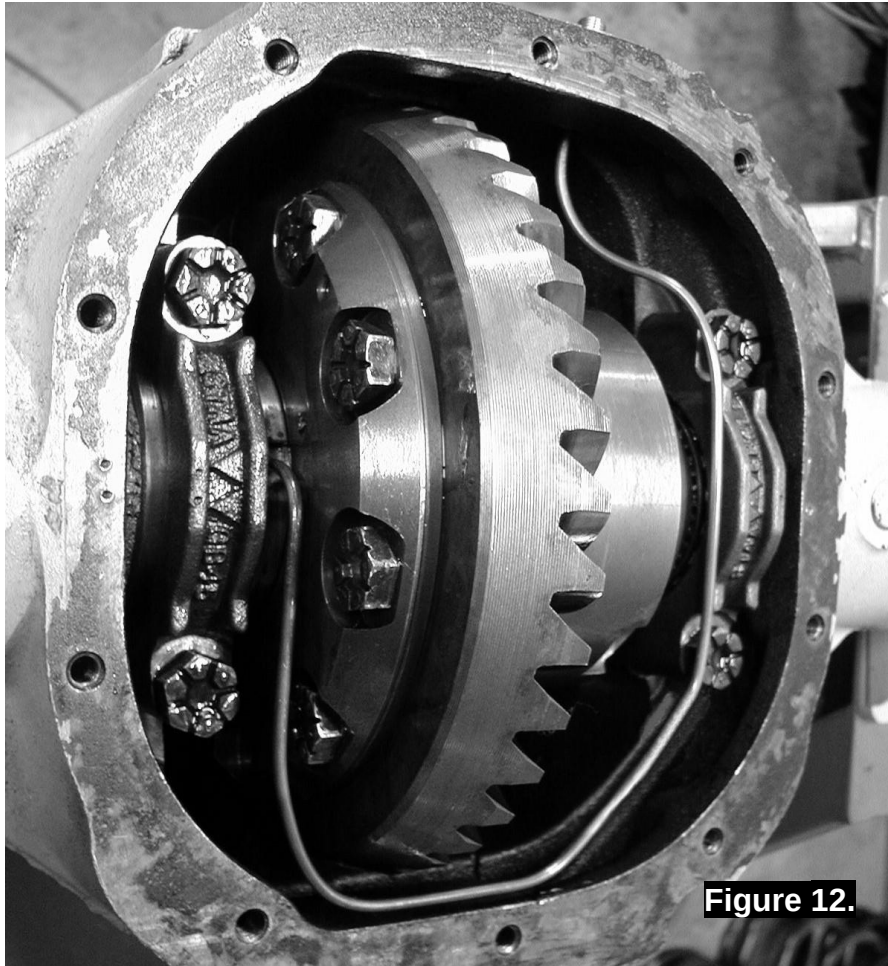
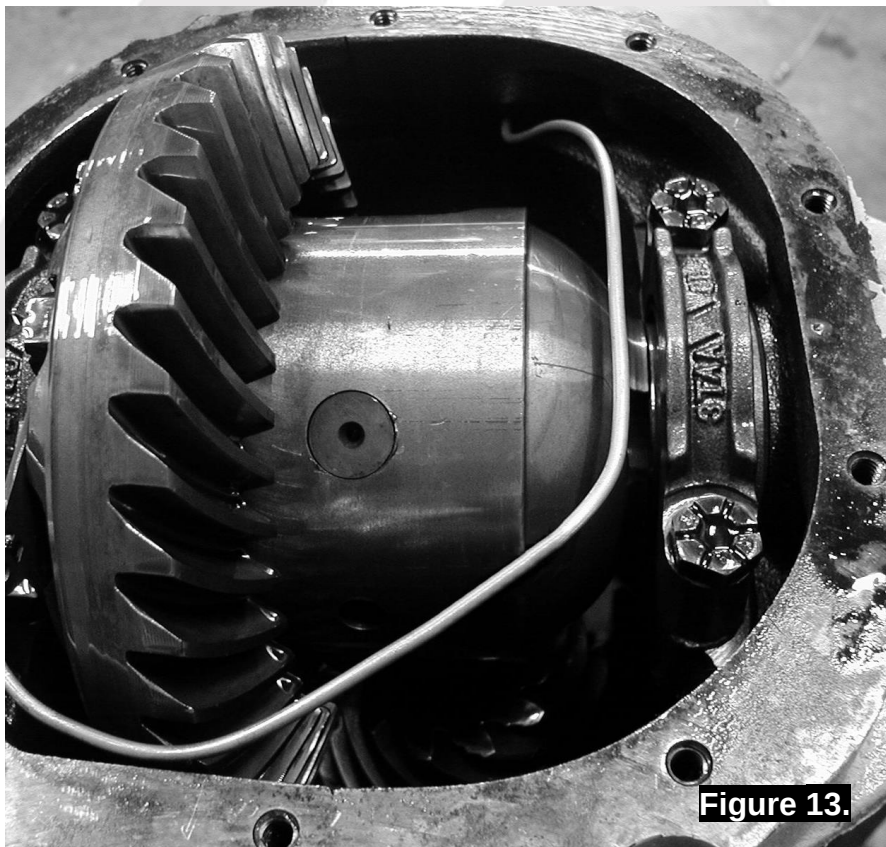

Figure 12.
Figure 13.
- ☐ Without using sharp, jagged tools such as pliers (usually your hands are the best tool for this job), bend the seal housing tube so that it runs under the ring gear and upwards protruding through the bulkhead port in the differential housing. (Fig. 12. & Fig. 13.)